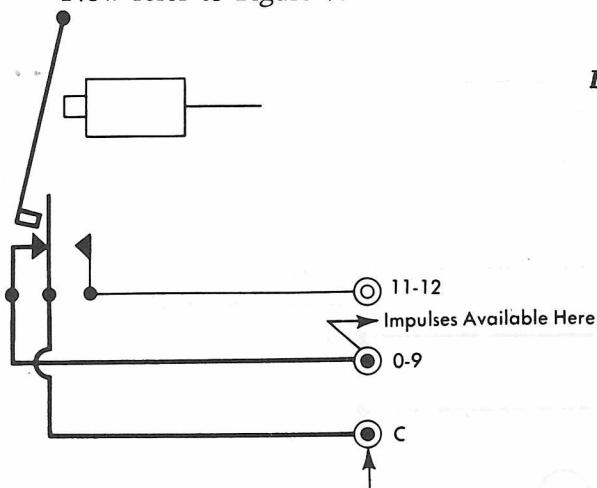

Figure 7. Wired from Brushes — All Punches 9-12
Now refer to Figure 7.
3. After the 11 zone has been read, the magnet will be de-energized and the X-Eliminator circuit will appear as Figure 7.